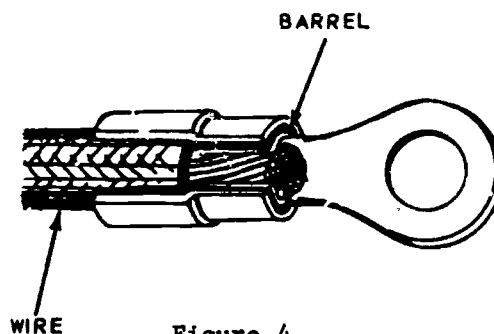

Figure 4.
f. Put the stripped end of the wire in the terminal lug barrel. Make sure the insulation of the wire is flush against the barrel of the terminal lug (figure 4).